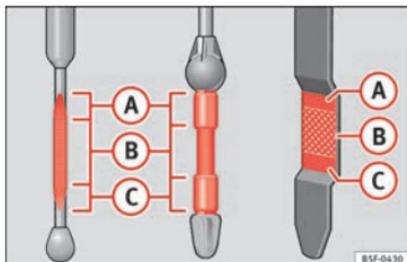

Fig. 175 Engine oil dipstick.
- Then pull it out once more and check the oil level » **Fig. 175**. Top up with engine oil if necessary.